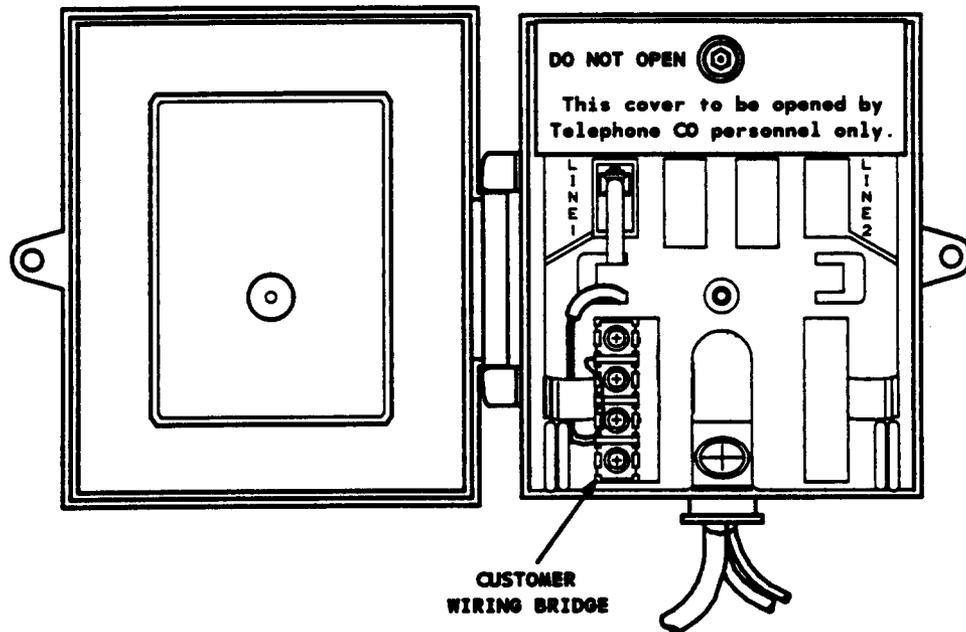

Figure 8. Mounting Unit onto Base
- (2) Install the 400 series NIU by mounting the NIU onto the base in the same way as the B customer service closure cover. Secure the NIU to the base with a cable tie on each side. Open the outside door of the NIU, using the 216 tool (Figure 8).